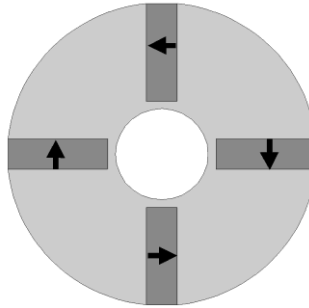

Figure 4 Typical interior magnet rotor with circumferentially magnetized magnets.
4. a. From the expression of Lorentz force, show that the torque density of a cylindrical electrical machine can be expressed in terms of the magnetic and electric loadings, B and Q , respectively. List the major assumptions which you make in the derivation. (5)
- b. Derive an expression for estimating the airgap flux density in a permanent magnet brushless machine having an interior magnet rotor with circumferentially magnetized magnets, such as that shown in Figure 4. Explain why the airgap flux density may be higher than the magnet remanence.